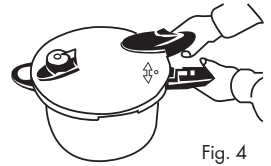

Fig. 4
1. Align the "●" symbol on the lid (Part 7) with the "▲" symbol on the pot handle (Part 13) (Fig. 4).